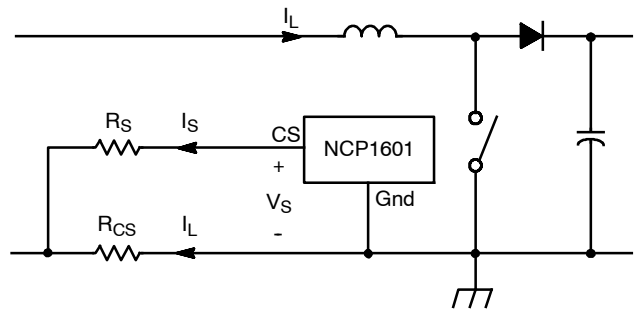

Figure 32. Current Sensing
The device senses the inductor current I_L by the current sense scheme in Figure 32. This scheme has the advantages of: (1) the inrush current limitation by the resistor R_{CS} , and (2) the overcurrent protection and zero current detection implemented in the same pin.
Inductor current I_L passes through R_{CS} and creates a negative voltage. This voltage is measured by a current I_S flowing out of the CS pin (Pin 4). The CS pin has an offset voltage V_S . This offset voltage is studied in the setting of zero inductor current $I_{L(ZCD)}$ and the maximum inductor current $I_{L(OCF)}$ (i.e., overcurrent protection threshold). A typical variation of offset voltage V_S versus sense current I_S is shown in Figure 15. Higher the value of the offset voltage at low current region creates lower the zero current threshold for better accuracy. Based on Figure 32, (eq.13) is derived.